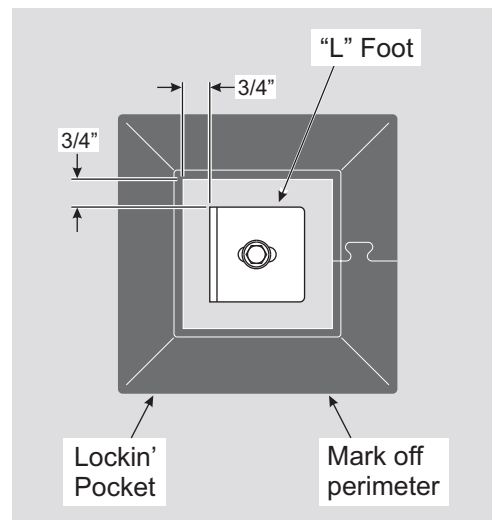

Figure 2-1: Aligning the Lockin' Pocket to 5" "L" Foot
- B. Mark the outside perimeter of the Pocket for reference. Then remove the Pocket. (See Figure 2-1)